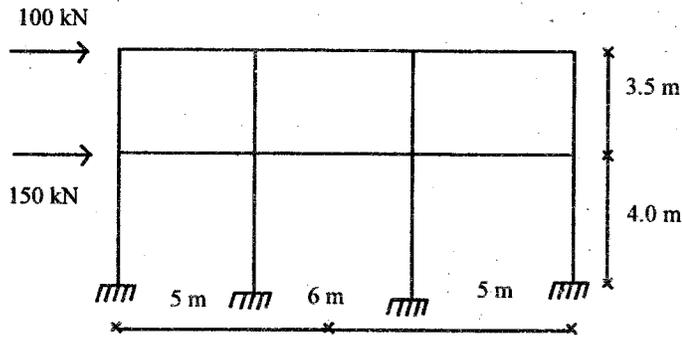

Fig 2
- (b) Determine member forces in the frame shown in Fig 2. Assume area of each inner column = 1.5 times the area of each outer column. The intensity of dead load and live load is 20 kN/m and 25 kN/m respectively.